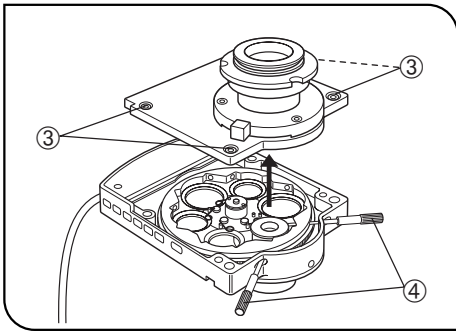

Fig. 48
With the IX2-LWUCDA motorized condenser, remove the four clamping screws ③ using the Allen screwdriver and remove the top cover. (Fig. 48)